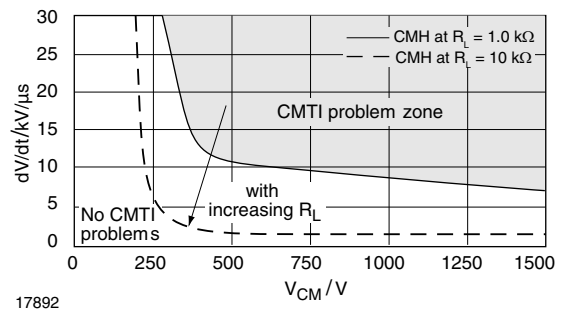
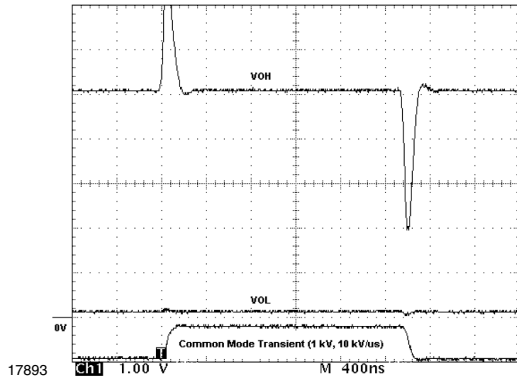

Fig. 16 - Typical CM_H Characteristics for 4 pin Transistor Optocouplers
Fig. 17 - Typical Behavior of a 4-pin Optocoupler During Excessive Common Mode Transients
In general these optocouplers are very robust to common mode transients because that the base is not connected. Hence, the common mode transient immunity is mainly determined by direct coupling to the output via C_{CMO}. The duration of the output signal distortion matches with the transient change (rising or falling edge). Refer to figure 17. The following considerations only apply to systems which can react to distorted signals which are in the range of a few hundred nanoseconds and less. The off state (CM_H) is in most applications the critical one and thus limits the overall performance. Figure 16 shows the typical dv/dt vs. V_{CM} curve for two different pull up resistor values.
- If operating the phototransistor in transistor switch or emitter follower mode, choose a low-value pull up resistor (compare with figure 16)